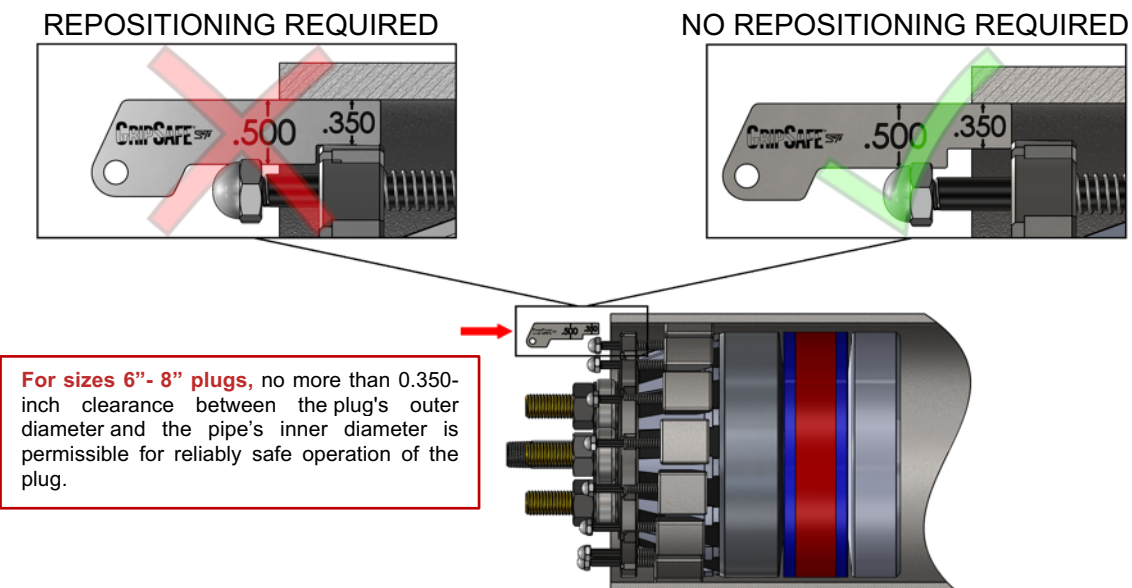

Figure 6: Sizes 6" – 8" GripSafe ST Plug and Pipe Concentricity
- For NPS 6"- 8" plugs, use the .350" portion of the GripSafe Concentricity Gauge. If the .350" portion of the No-Go Gauge goes in between the plug's outer diameter and the pipe's inner diameter, repositioning the plug is required, see Figure 6 "REPOSITIONING REQUIRED". If the .350" portion of the No-Go Gauge does not go in between the plug's outer diameter and the pipe's inner diameter as shown in Figure 6 "NO REPOSITIONING REQUIRED" proceed to the next step. To help with plug's concentricity, see **Note 6.7**.